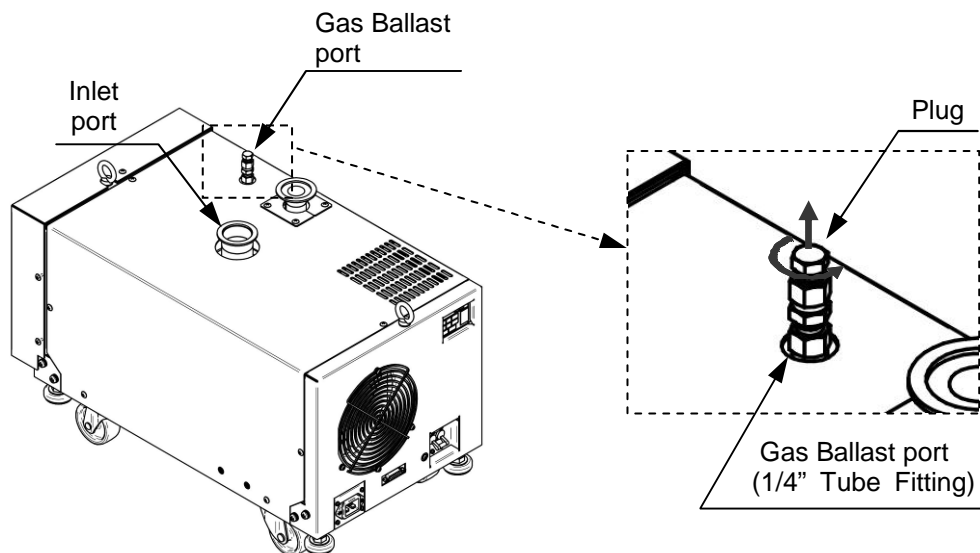

Fig. 5.4 Gas Ballast port
- ✓ When introducing a condensable gas, such as water vapor, into the pump, remove the plug of the gas ballast port and operate a pump. (See Fig. 5.4)